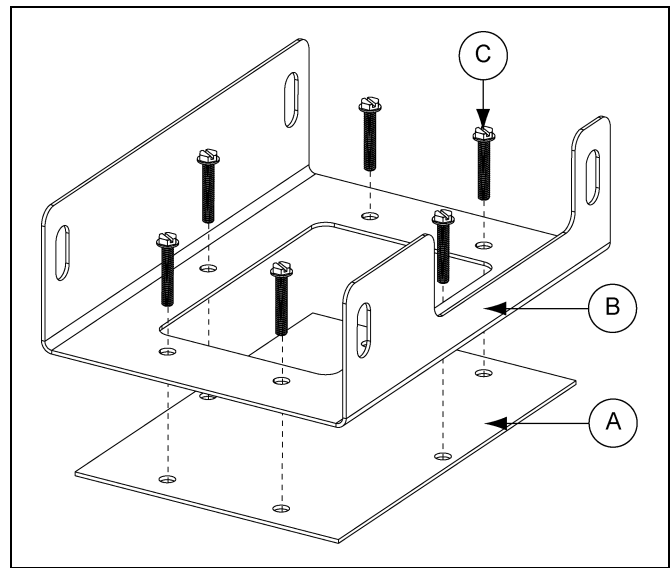

Figure 5BW
- b. Anchor the diaphragm (A) in place using the bracket (B) and screws (C). (See Figure 5BW.)